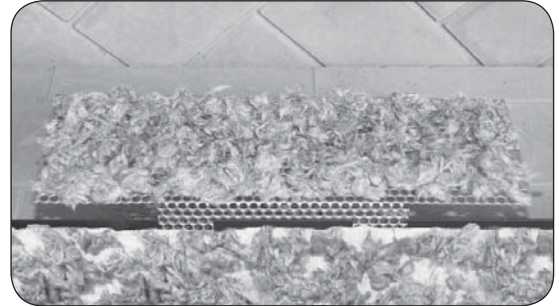

Fig. 22-2 Cover screen with embers
2. Cover the surface of the ember screen with the additional glowing embers as shown in Fig. 22-2.